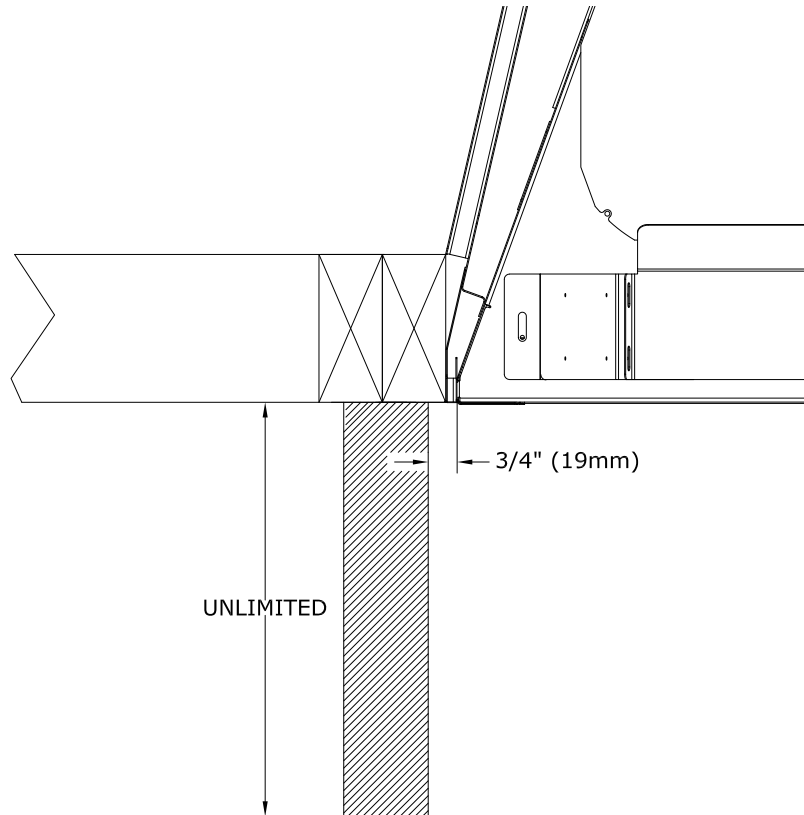

Figure 3.26 - Sidewall Clearances
- Mantel Leg: Follow "Combustible Sidewall Clearance" below. See Figure 3.26.
- Combustible Sidewall Clearance: The adjacent sidewall projection is unlimited and starts at 3/4" (19mm) from the side of the fireplace. The sidewall can start at 0" (0mm) from the side finishing edge when using the optional finishing trim kit (see the fireplace manual for more information). See Figure 3.26.
- Figure 3.26 shows the projection of a combustable adjacent sidewall projection is unlimited and starts at 3/4" (19mm) from the fireplace side of the fireplace. The combustable sidewall projection starts at 0" (0mm) with the fireplace side finishing edge of the optional finishing trim kit (see the fireplace manual for more information). For more information on the optional finishing trim kit see Section 3.1.3 and 3.1.4.